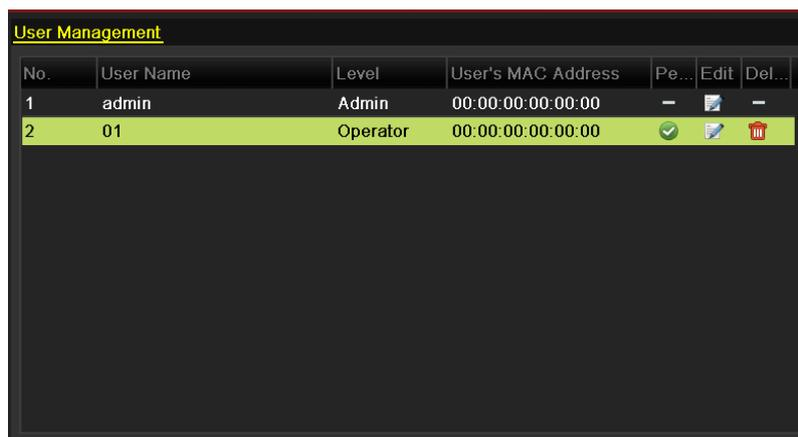

Figure 13. 8 User List
- Select the user to be deleted from the list, as shown in Figure 13. 8.